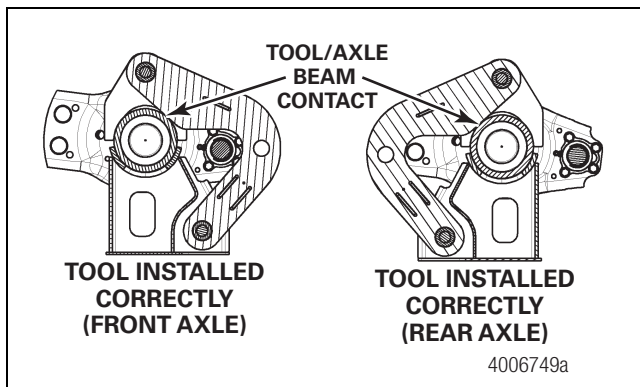

Figure 20
2. Install the tool as shown to align the lower and upper axle seats. Figure 20.